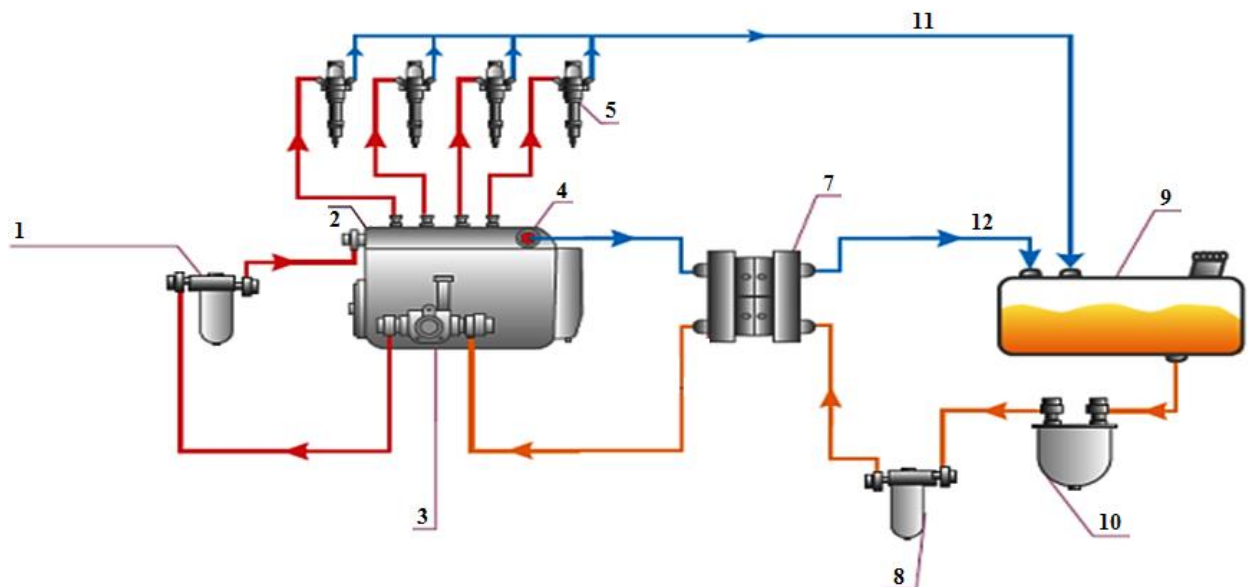

fig. 4.9. eurosens Delta installation with supply chamber on suction side,
- supply chamber is installed in the fuel line before LPFP (suction side). In this case, it is necessary to install an additional fine filter (fig. 4.9).